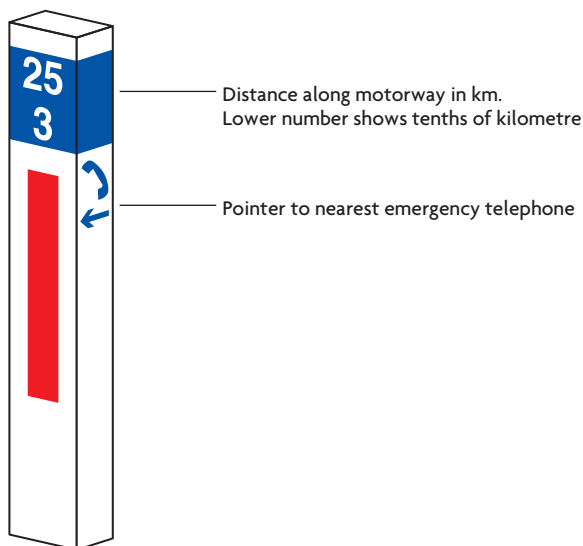

Figure 13.5 Example of a marker post.
- ▶ Your location – the nearest marker post (see Figure 13.5) will confirm your location to within 100 metres
Marker posts are a distance in kilometres from a defined point and will give your location within 100 metres. The example post shown in Figure 13.5 is 25.3 km from the defined point.